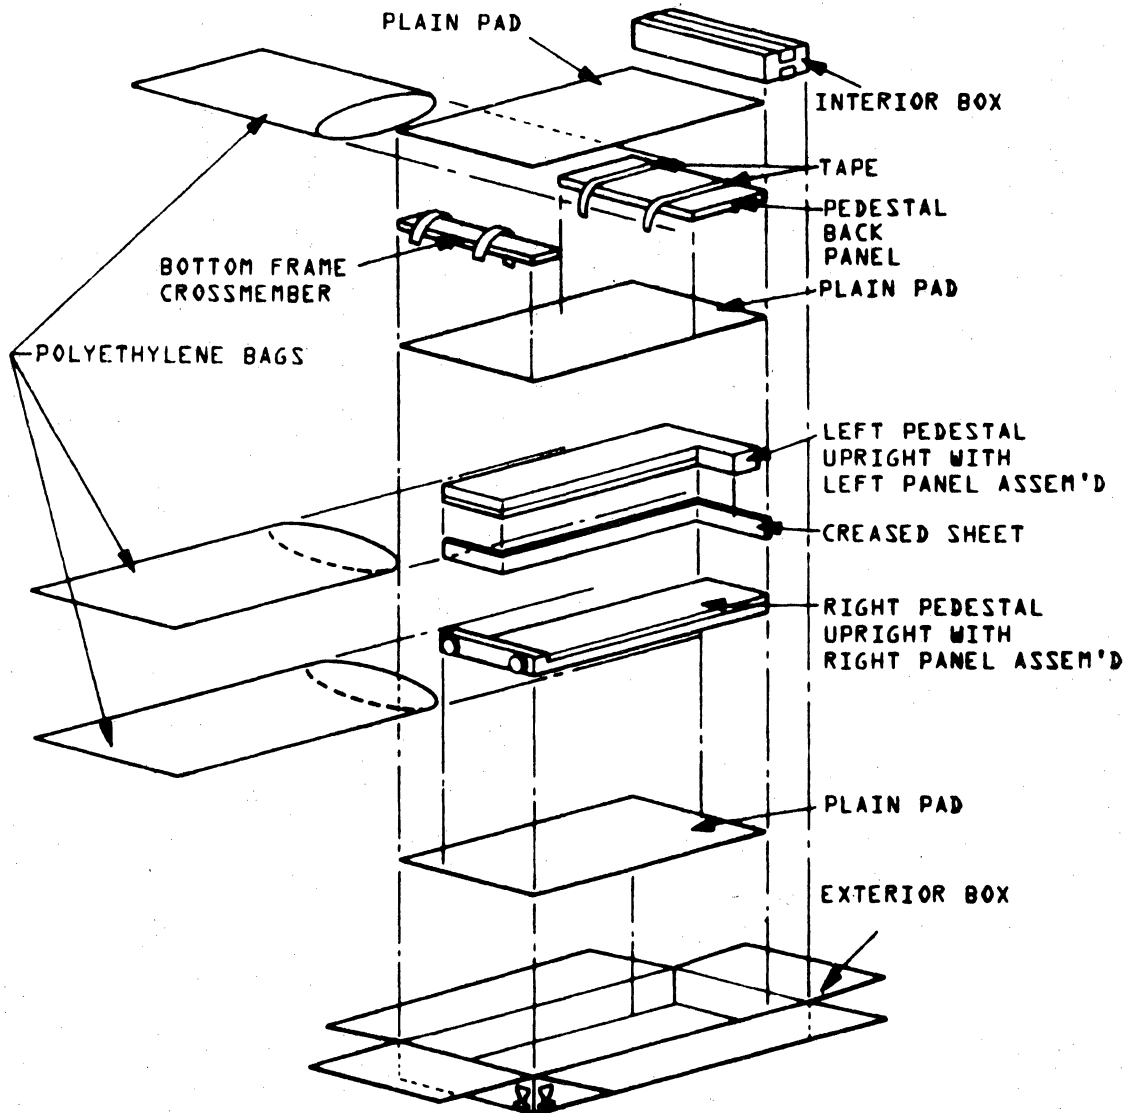

Figure 3-4. Crating and Uncrating the Impact Printer Pedestal
- 8) If using optional pedestal, refer to figure 3-4, and open pedestal box, remove assembly instruction sheet, remove packing materials from pedestal parts, and assemble pedestal per instruction sheet.